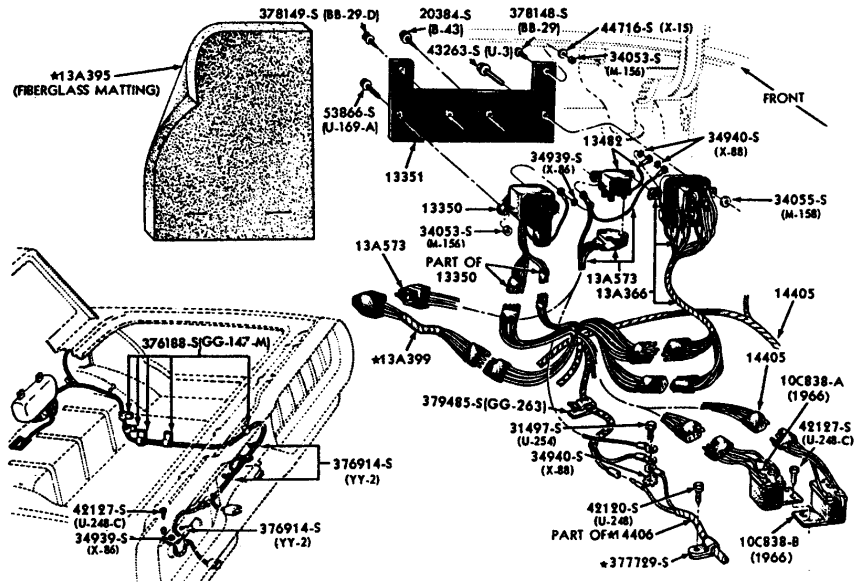

Figure 1. Turn Signal Sequencer Location - 1965 -1966 Thunderbirds built before 11/17/65
1. Disconnect the battery for safety. Locate the factory sequential system mounted on the rubber pad behind the back seat on the passenger side (Figures 1 and 2). Remove the spare tire for access.